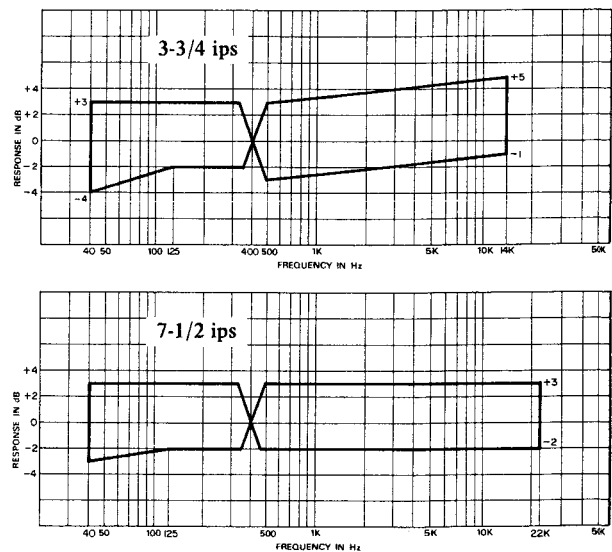

Fig. 8-11 Frequency Response - OVERALL - 2
24. Repeat the above procedure for HIGH, using a signal swept from 40 Hz to 22 kHz. Refer to Response Limits in Fig. 8-11 below.